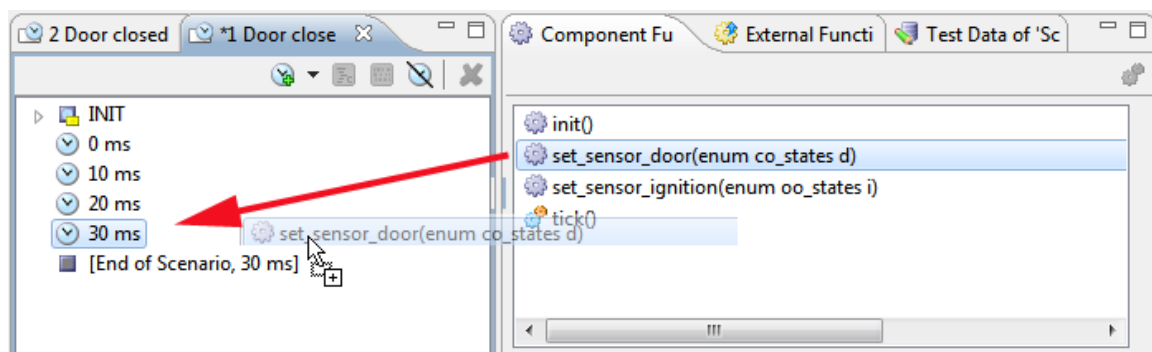

Figure 5.85: `set_sensor_door()` is dragged to 30 ms simulated time
- Drag the component function `set_sensor_door()` to 30 ms simulated time (see figure 5.85).